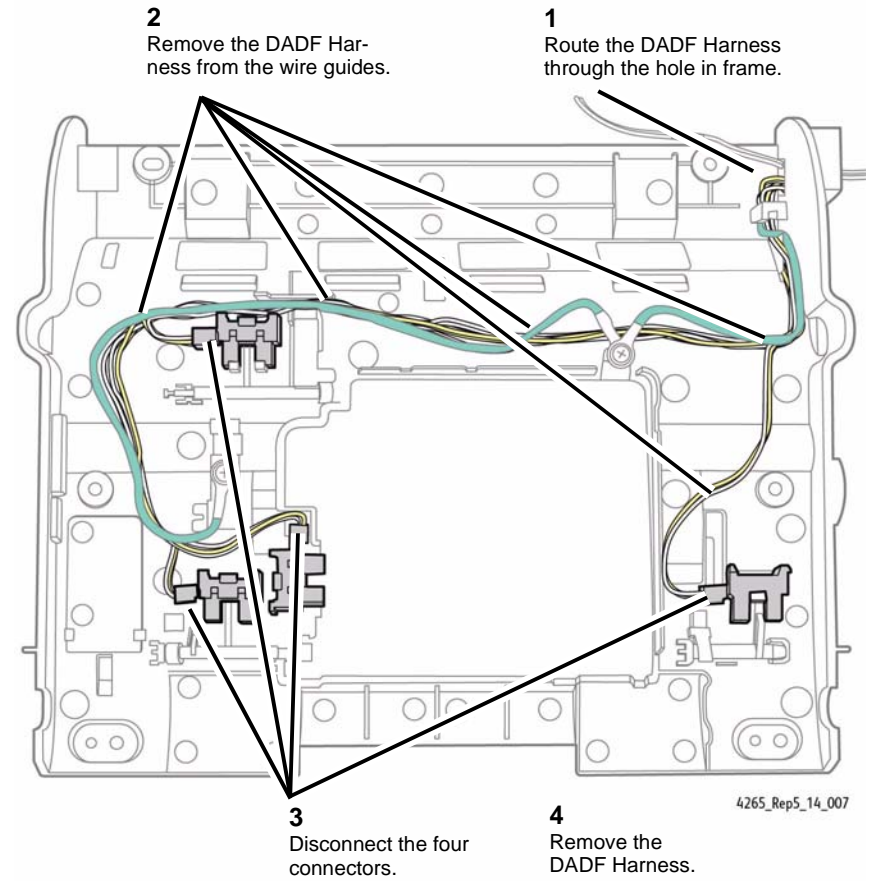

Figure 3 Removing the DADF Harness
- Remove the DADF Harness from the Inner Cover (Figure 3).